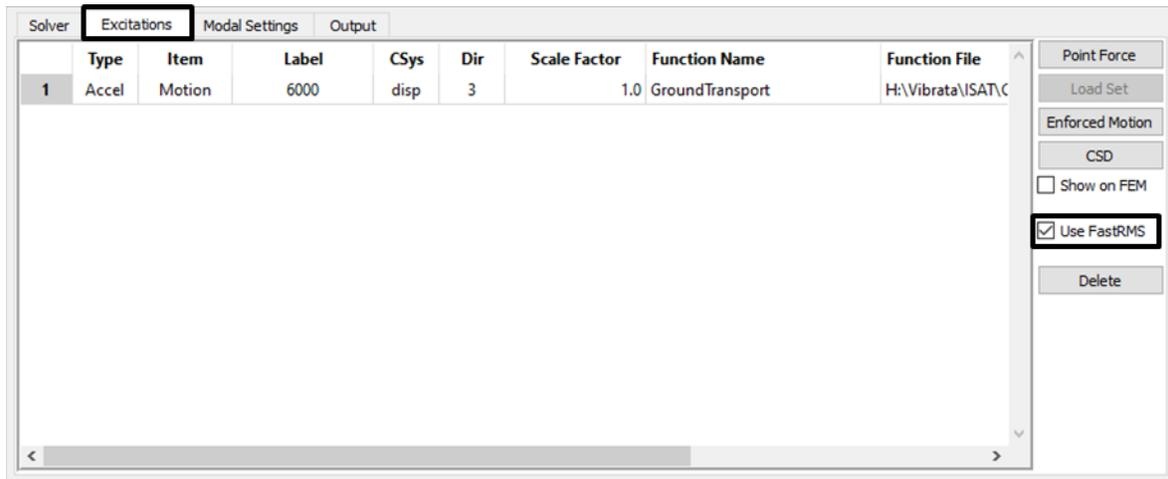

Figure 4-67. Turn on the *Use FastRMS* toggle on the *Excitations* tab.
2. On the *Excitations* tab, turn on the *Use FastRMS* toggle (Figure 4-67). That is the only change needed for the new event.